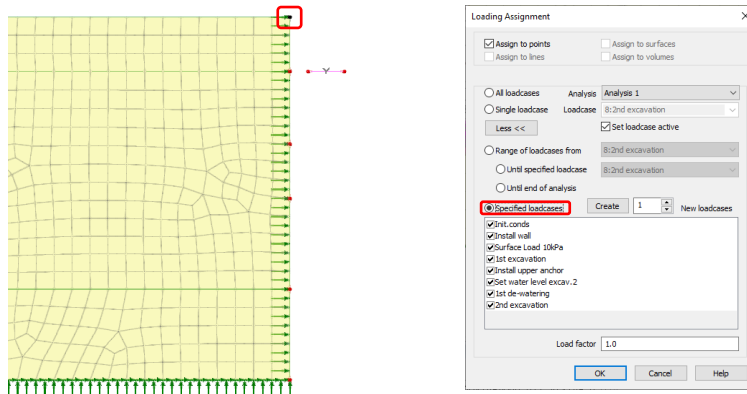

Figure 52: Assignment of dummy load for excavation
- Now select the upper righthand point (40,20) and assign the load **dummy load for excavation** and click on the radio button for **Specified loadcases** then **OK** (figure 52).